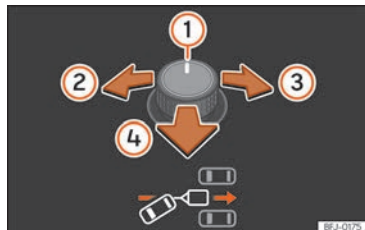
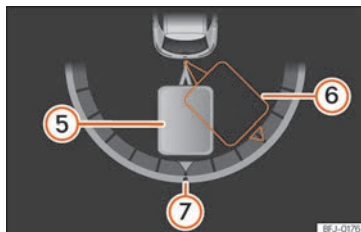

Fig. 196 Rotary exterior mirror controls.: adjust the trailer angle.
Fig. 197 Instrument panel display: engage reverse gear
Key of the **Fig. 196**, **Fig. 197**:
• Tilt the rotary control until the desired direction is reached » **Fig. 196**. A representation of the tow vehicle and trailer set is shown on the instrument cluster screen for guidance purposes » **Fig. 197**.